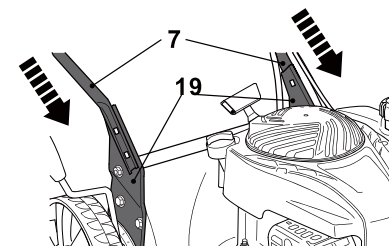

Fig. 3
3. Make sure the wires (5) run on the upper side of the handle bars (4, 7).
4. Remove the covers from the lower handle bar (7).
5. Align the lower handle bar (7) with the handle supports (19). Make sure the holes in the lower handle bar are aligned with those in the supports (Fig. 3).